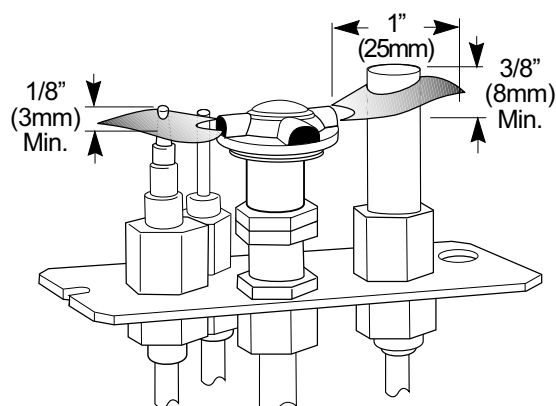

Figure 28. Proper pilot flame appearance.
2. **PILOT FLAME:** You can monitor the pilot flame through the view port located at the rear of the Right Log. See fig. 28. The pilot flame should be steady - not lifting or floating. The flame should be blue in color around the pilot hood, with traces of yellow toward the outer edges.
The pilot flame should engulf the top 3/8" of the thermopile (to generate millivolt current) and the top 1/8" of the thermocouple. The pilot flame should project out of the pilot hood 1" at all three ports. See fig. 28.
- **Inspect the pilot head, thermopile and thermocouple for signs of rust or deterioration and replace any components that do.** Check that the pilot head is properly engaged with the throat and is oriented correctly. See fig. 28, page 17.